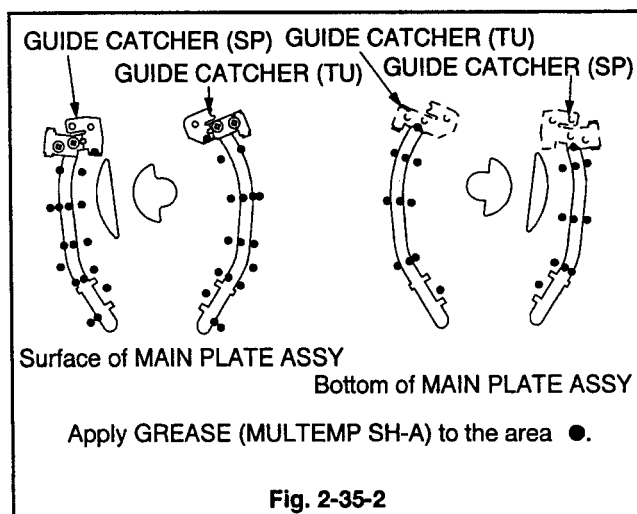

Fig. 2-35-2
1. Apply GREASE (MULTEMP SH-A) [859D055O80] to the area specified in Fig. 2-35-2 on the MAIN PLATE ASSY .